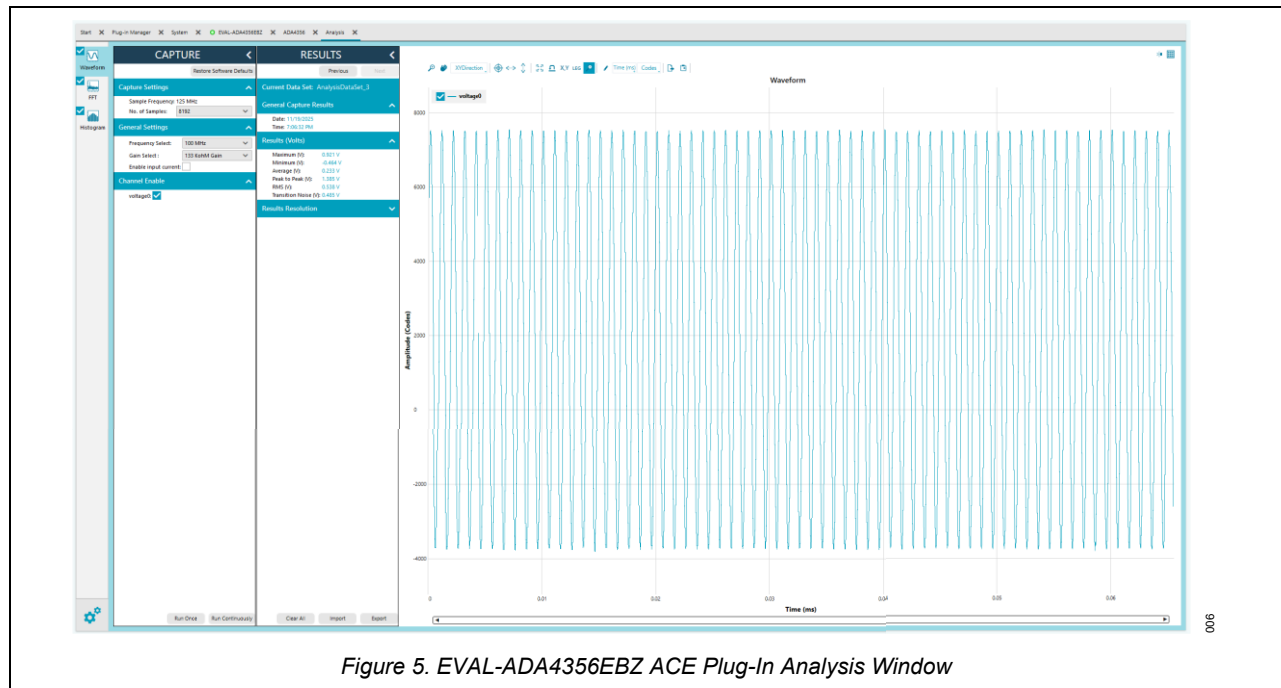

Figure 5. EVAL-ADA4356EBZ ACE Plug-In Analysis Window
30. Double-click on the **ADA4356** to enter **Chip View**, then click on the **Proceed to Analysis** button. This opens the **Analysis** window, which shows the results, along with the **CAPTURE** pane where capture settings can be configured, as shown in Figure 5.
31. Toggle the function generator's output to ON (or ENABLE) to produce an observable output. By clicking either **Run Once** or **Run Continuously** in the ACE software's **CAPTURE** Pane, an output waveform similar to Figure 5 should be displayed.